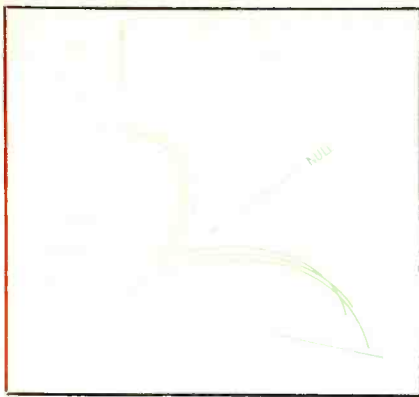

Fig. 4. Diagram of null or minima depth, as affected by changes in current ratios.
An additional factor which will concern the directional antenna operator is the ratio of currents in the various towers of a system. Generally, the current ratio will determine pattern shape by affecting the depth of the nulls. Fig. 4 shows how this can occur. As the current ratio approaches unity (1) the null becomes deeper; that is, it is drawn in to the station as cancellation becomes more complete. To either side of unity, the null is filled.